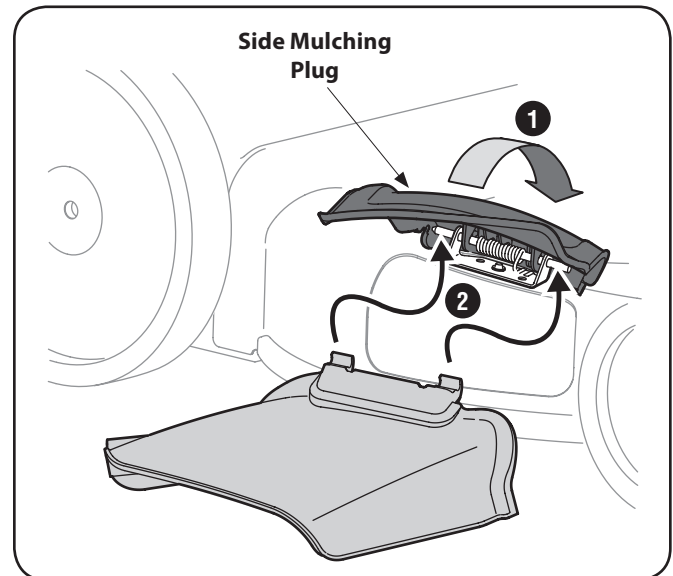

Figure 3-9
1. On the side of the mower, lift the side mulching plug as shown in Figure 3-9.